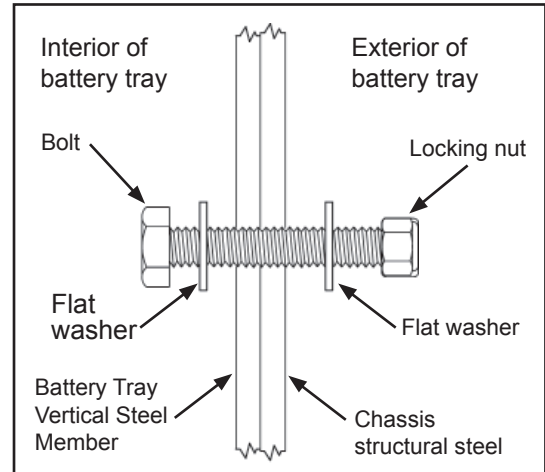

Figure 3
6. Install a grade 5 bolt, two flat washers, and a nylon lock nut at each newly drilled location, using the stacking order shown in **Figure 3**. Tighten nuts to 12 -15 ft./lbs. See Parts list for hardware requirements.